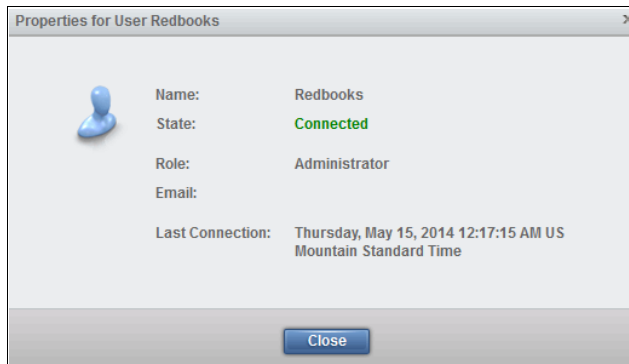

Figure 4-54 User properties
- ▶ **Properties:** This option displays the properties of the user, the state of the user, and the user's last connection, as shown in Figure 4-54.